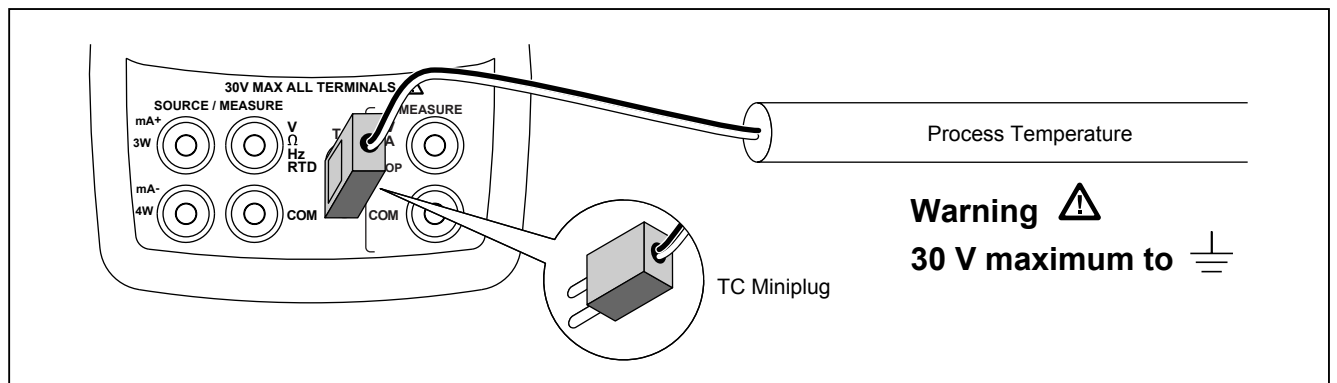

Figure 10. Measuring Temperature with a Thermocouple
2. Attach the thermocouple leads to the appropriate TC miniplug, then to the TC input/output as shown in Figure 10.